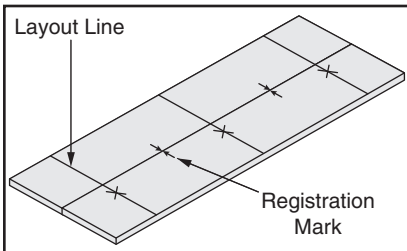

Figure 15. Layout lines and registration marks.
3. Use a square to draw layout lines across boards through marks, then make registration marks on edge of each board to ensure correct edge is cut (see **Figure 15**).